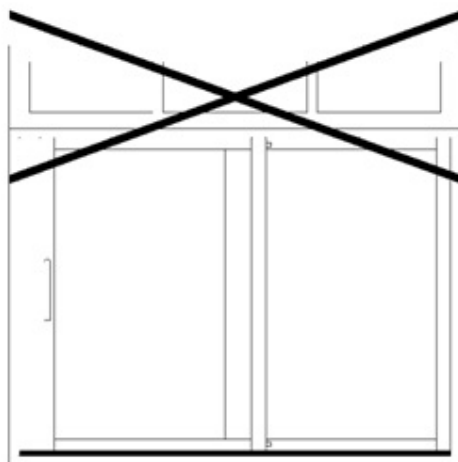

Figure 13. A parallel sliding door is not a supporting structure
5. A parallel sliding door must not be used as a supporting structure, i.e. no openings shall be installed immediately on the sliding door (see Figure 13. A parallel sliding door is not a supporting structure).